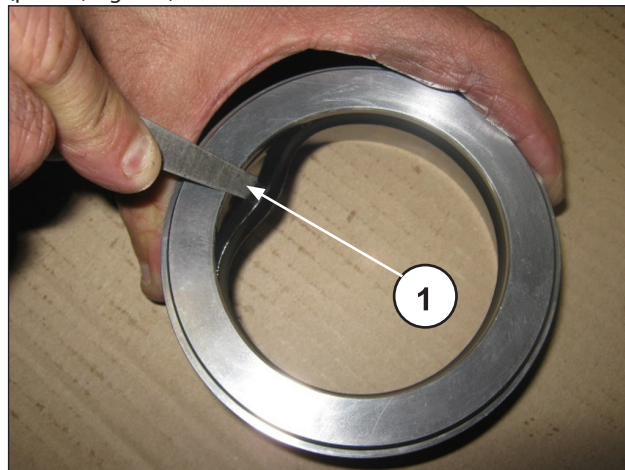

Fig. 247
To remove the low pressure seal, use a thickness gauge or another tool which will not damage the seal support housing (pos. ①, Fig. 247).